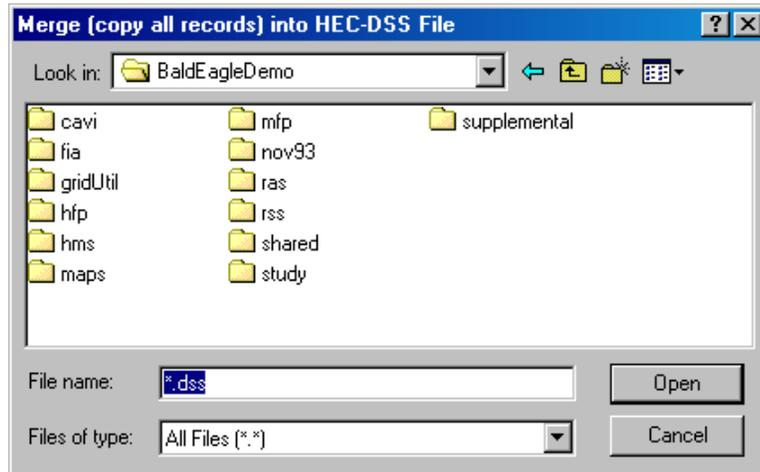

Figure E.19 HEC-DssVue Merge (copy all records) into HEC-DSS File Dialog Box
2. Choose **Merge** from the **Utilities** menu. The **Merge (copy all records) into HEC-DSS File** dialog box (Figure E.19) will open.